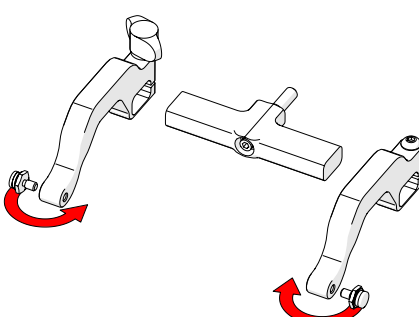

Fig. 138 - Position pivot buttons
5. Position the pivot buttons to the inside of the probe holder arms (Fig. 138).